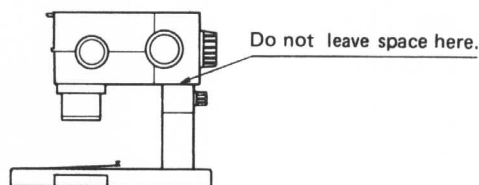

Fig. 2
- ② Securely clamp the drop prevention collar next to the microscope body. (Fig. 2)